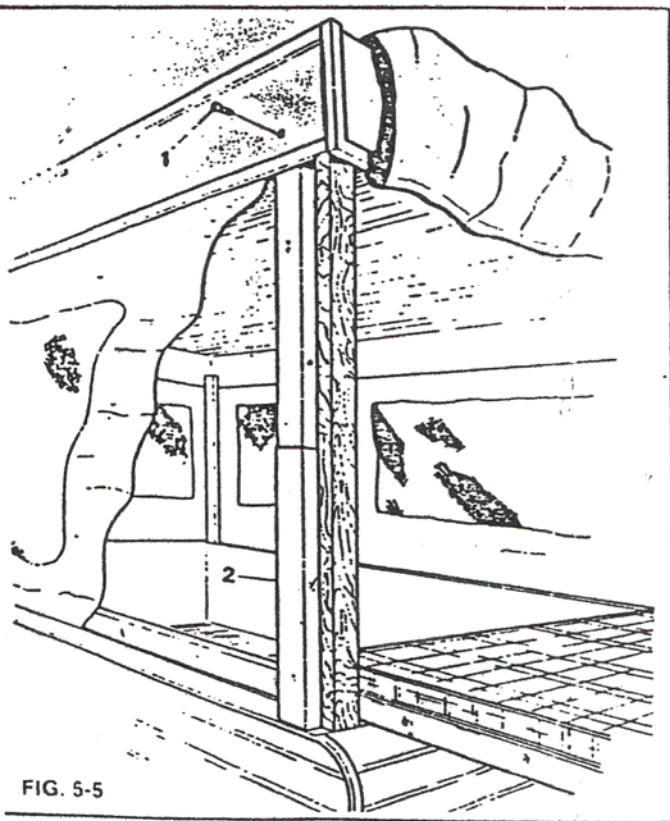

FIG. 5-5
**CAUTION:** Lock winch. Wedge support stud firmly in place under corner that damaged cable leads to. Care must be taken during entire cable removal procedure so you do not dislodge support stud. See Figure 5-5.